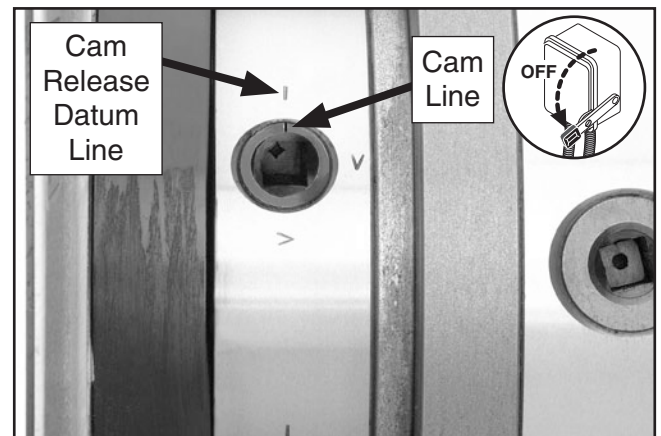

Figure 28. Cam and lines.
The chucks and faceplate have a D-6 Camlock mount. Please note that there are lines stamped into the cam and on the chuck body. A chuck key is used to turn the locking cams (**Figure 28**) to secure/release the chuck/faceplate.
3. Turn a cam with the chuck key until the cam line aligns with the cam release datum line shown in **Figure 28**.